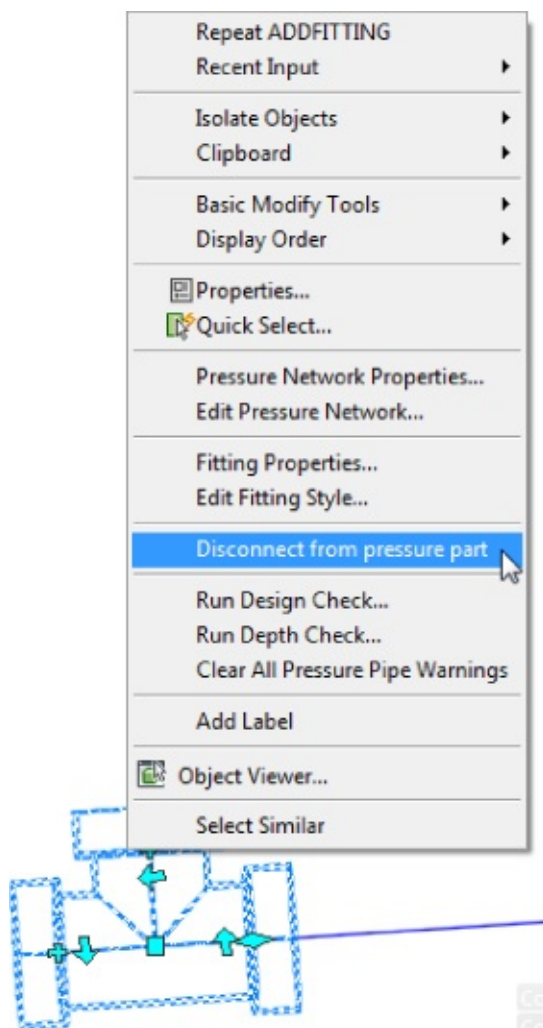

Figure 13.89 Disconnecting the part in preparation for rotating it
21. Click the tee in the graphic to select it, and then right-click the part and select Disconnect From Pressure Part, as shown in Figure 13.89. (Note that this command is not available in the contextual tab.)